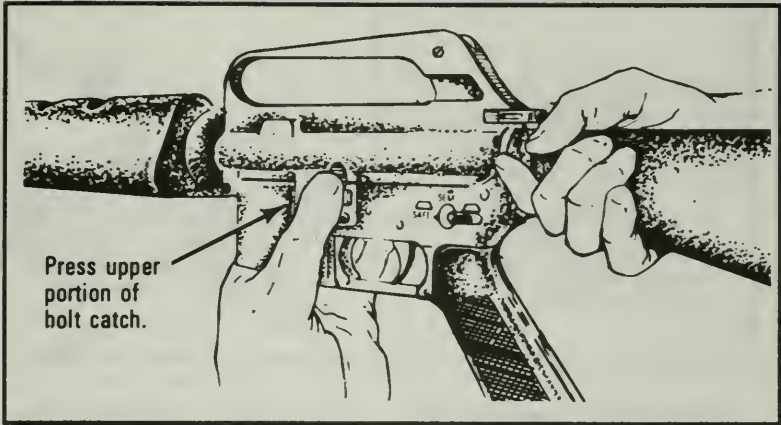

Figure 52. Releasing the bolt.
d. With the selector lever on safe, allow the bolt to go forward by pressing the upper portion of the bolt catch (Figure 52).